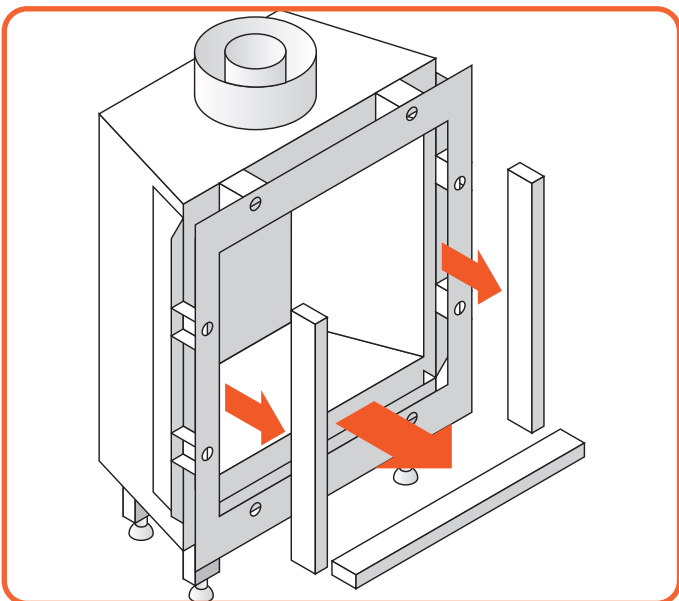

Figure 9.4 | Remove side and bottom trims
- Remove both the side trims and bottom trim. They are held by magnet snappers, Figure 9.4